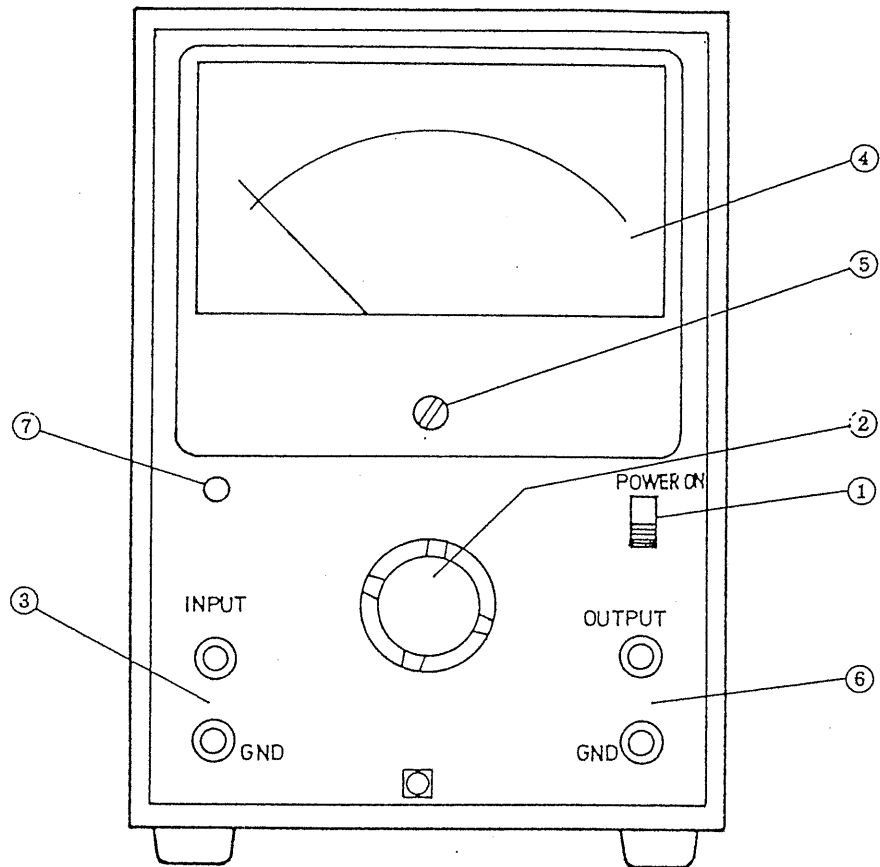

Fig. 3-1
- (1) Turn OFF the POWER switch at the right-hand side on the front panel.
- (2) Check that the meter pointer is settled accurately at the zero scale position. If it is not, set it accurately in the zero position as explained in Item (5) "ZERO adjustment" of Sub-section 3.1 "Preparation for Measurement." (Refer to Fig. 3-1.) If the voltmeter power has been OFF, turn it and allow more than 5 minutes so that the meter pointer is settled in a position close to the zero scale position.
- (3) Connect the power cord to an AC power line outlet of 100 V (or other voltage to which the voltmeter has been converted), 50 or 60 Hz.
- (4) Set the RANGE switch in the highest voltage range (300 V or 500 V).
- (5) Turn ON the POWER switch. The POWER PILOT lamp will light indicating that the power is turned on. The meter pointer may deflect irregularly for about 10 seconds after the switch is turned ON (or OFF), but this is only transient and not an abnormal indication.
- (6) When the pointer is stabilized, the voltmeter is ready for measurement.